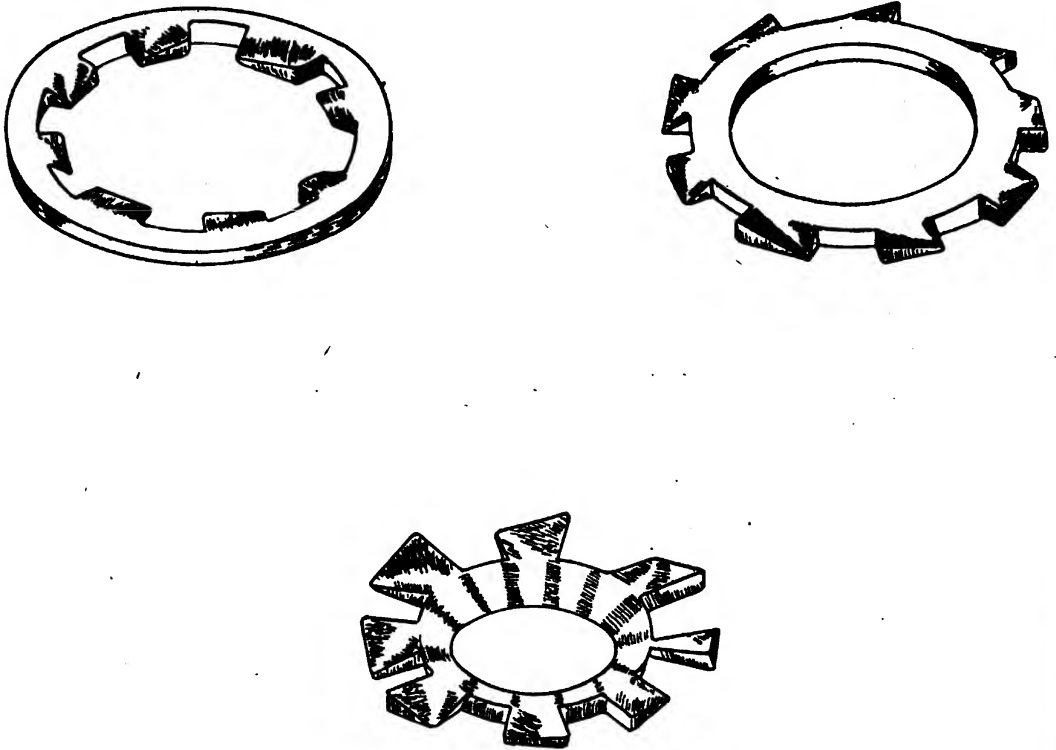
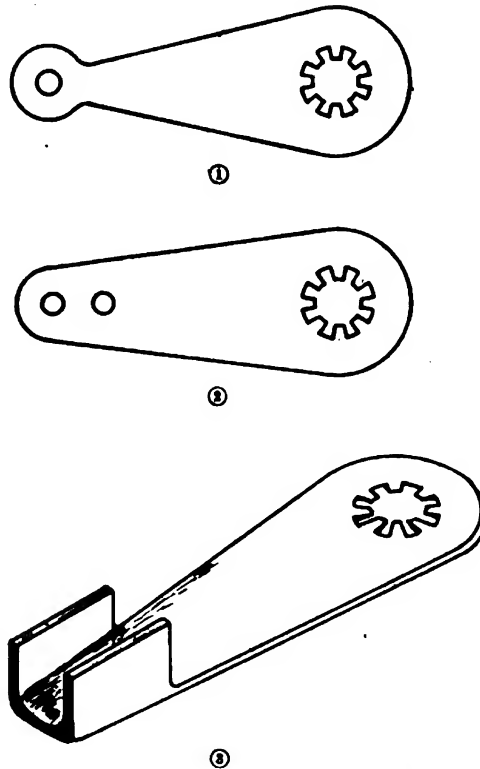

FIGURE 38.—Shake proof lock washers.
FIGURE 39.—Self-locking terminals.
*d.* There are several other types of lock washers used in radio and machinery practice. Figure 38 illustrates some of these types. Figure 39 shows self-locking terminals for radio or electrical work.